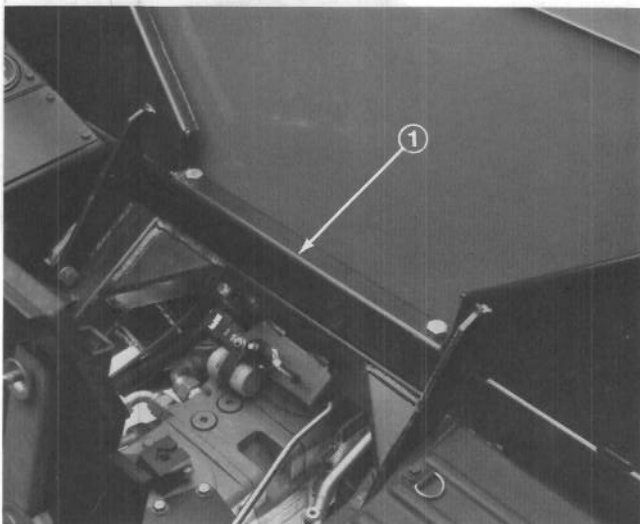

Figure 9
2. Lower roll bar onto frame, aligning mounting holes as shown in fig. 9.
3. Secure each side of roll bar to frame with a 1/2 x 13 - 3/4" lg. capscREW and lockwasher. Secure back of roll bar to frame with (2) 1/2 x 13 - 6-1/2" lg. capscREWS, flatwashers (1-1/16" O.D.) and 1/2 -13 locknuts. Tighten all fasteners securely.